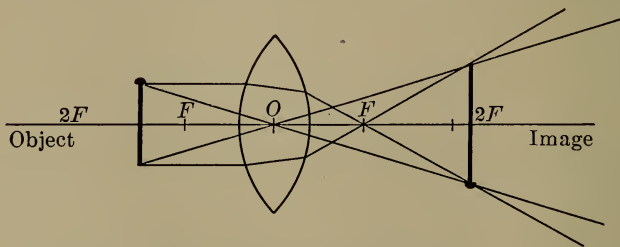

FIGURE 99.—CONSTRUCTION OF IMAGE WHEN OBJECT IS BETWEEN  $F$  AND  $2F$ .
Construct as before. (Figure 99.) The image is (1) beyond  $2F$ , (2) larger than the object, (3) inverted, and (4) real.